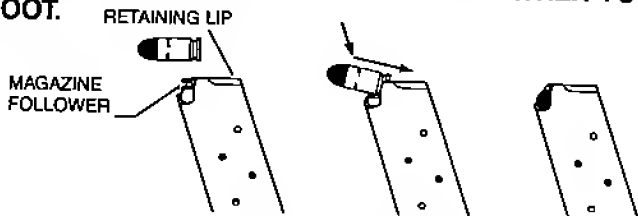

FIGURE 3—LOADING MAGAZINE
3. With open end uppermost, grasp magazine in one hand. Place a round on magazine follower with base just forward of retaining lips (see Figure 3). Press round down and back until base of round touches rear flat edge of magazine. Place next round on top of previous round and press down and back. Repeat until magazine is loaded, but do **NOT** exceed its capacity. For magazine capacity, see Section 2—Main Features.